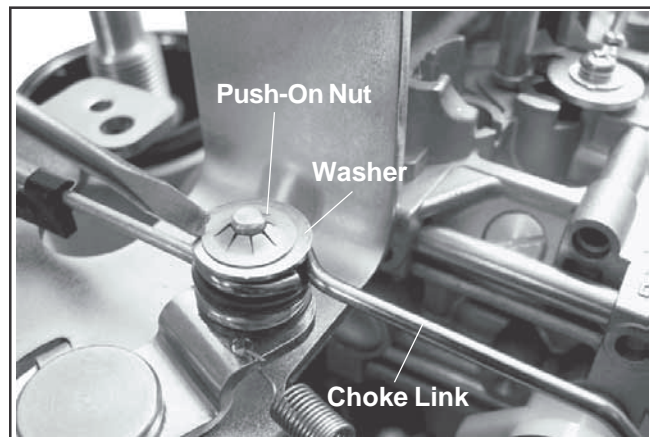

Figure 10-95. Installing Choke Link and Push-On Nut.
2. Connect the choke link to the control pivot pin. Reinstall the washer and secure with a **new** push-on pal nut. See Figure 10-95.